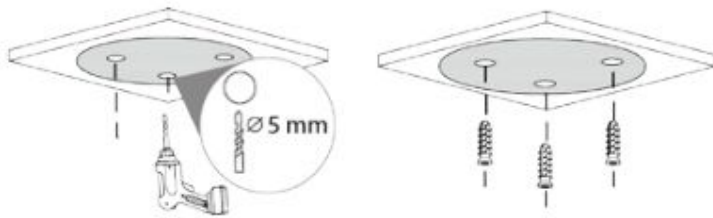

Figure 2-1
Step 1 Use the included position map and drill the appropriate mounting holes and cable exit, if necessary. Install the included expansion bolts into the mounting holes. See Figure 2-1.